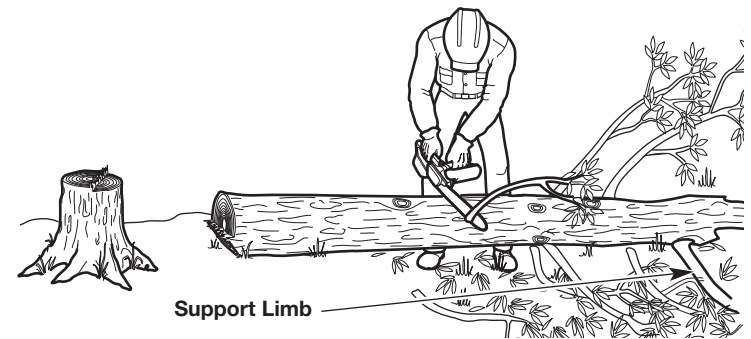

Fig. 16
- Leave the larger support limbs under the tree for last (Fig. 16). These will keep the tree off the ground during the limbing process.
- Cut one limb at a time. Stand on the opposite side of the tree from the limb (Fig. 16). Keep the trunk between the operator and the chain saw. To avoid binding the chain saw, branches under tension should be cut from the bottom up.